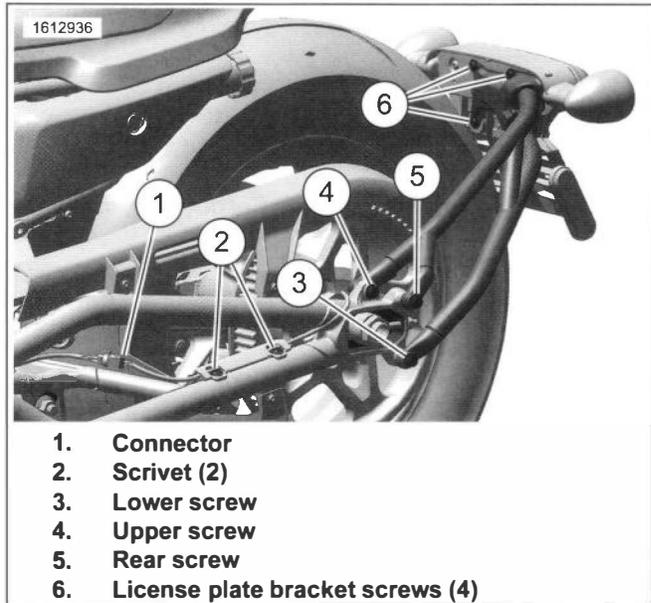

Figure 3-96. Rear License Plate Module Swingarm Mount COMPLETE
1. See Figure 3-96. Remove rear license plate module swingarm mount.
- a. Disconnect connector (1).
- b. Remove scrivets (2).
- c. Remove screws (3).
- d. Remove license plate bracket screws (4).
1. See Figure 3-96. Install rear license plate bracket.
- b. Install license plate bracket screws (2). Tighten.
2. See Figure 3-96. Install license plate module swingarm mount.